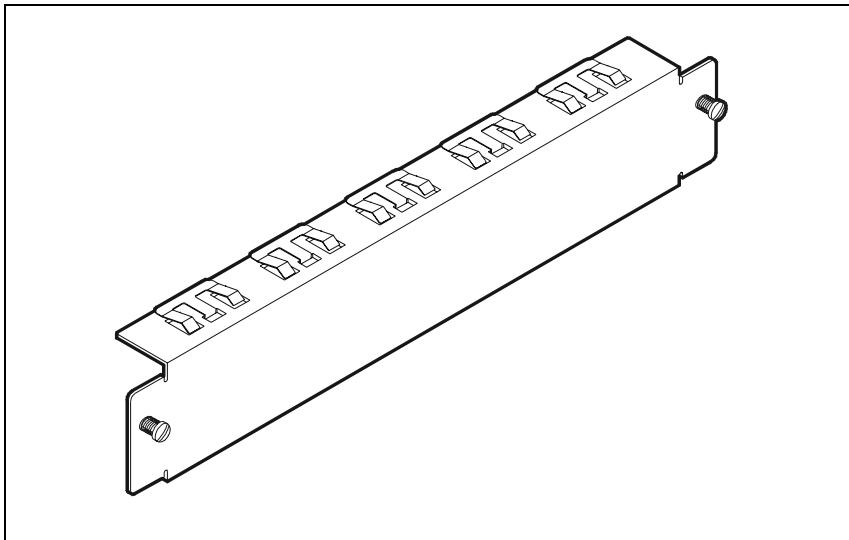

Figure 5 BCC Filler
A BCC filler (Figure 5) replaces the second BCC when redundancy is not required. The filler is installed in the bottom slot.
- **On/Off switch capability.** Some PDU/PDRU options support the use of a single-point on/off switch. See Figure 4 and Figure 5.